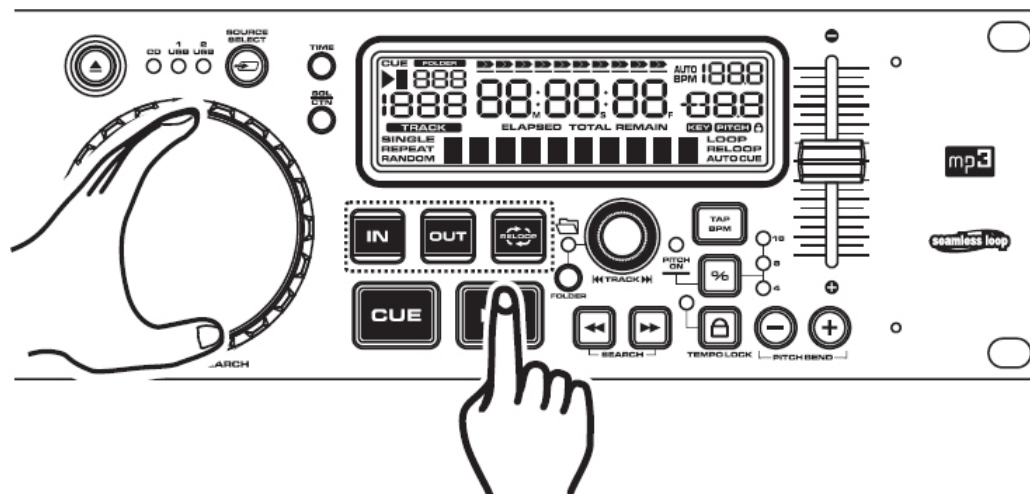

Figure 11
This feature allows you to scroll through a track to set a cue, or loop point. To use the scroll function you must first be in Pause Mode or Cue Mode. Once you are in Pause or Cue mode, use your finger tip or hand to turn the Jog Wheel (18) to scroll through the track (Figure 11).
Once you reach your desired starting point you can set a cue (starting) point by pressing the PLAY/PAUSE button (15) as in Figure 11.